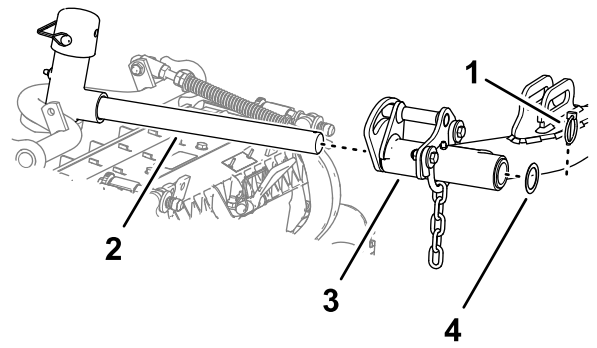

Figure 22
5. Slide a cutting unit under the lift arm (Figure 22).